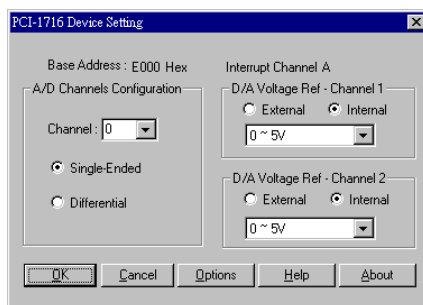

Figure 2-7: The *Device Setting* dialog box
Step 4: On the *Device Setting* dialog box (Figure 2-7), you can configure the voltage source either as External or Internal, and specify the voltage output range for the 2 D/A channels.